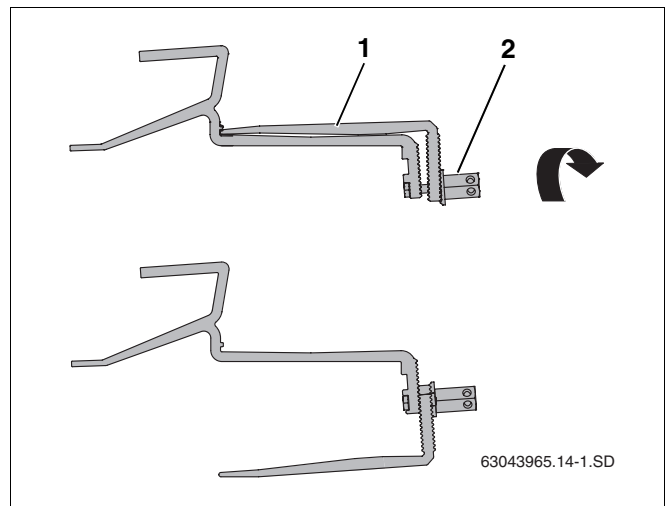

Fig. 12 Turning the lower part of the roof hook
- ▶ Loosen the long hexagon nut (Fig. 12, **Item 2**) on the roof hook and move the lower part of the roof hook (Fig. 12, **Item 1**) to the correct position.